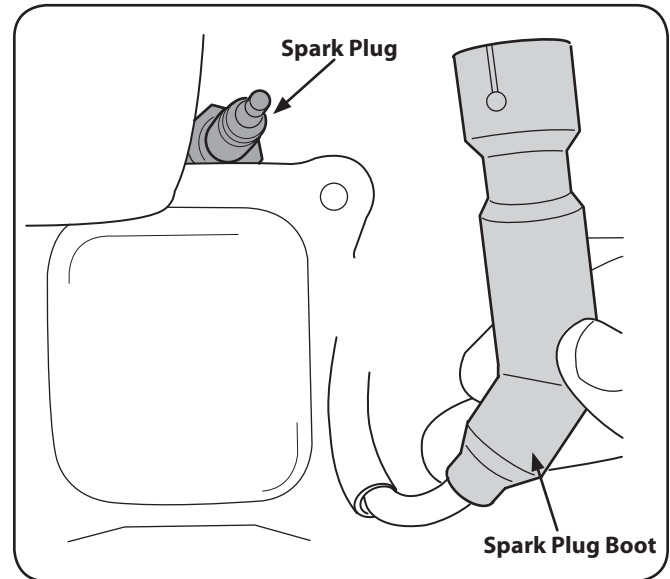

Figure 7-4
1. Remove the spark plug boot and use a spark plug wrench to remove the plug, Fig. 7-4.